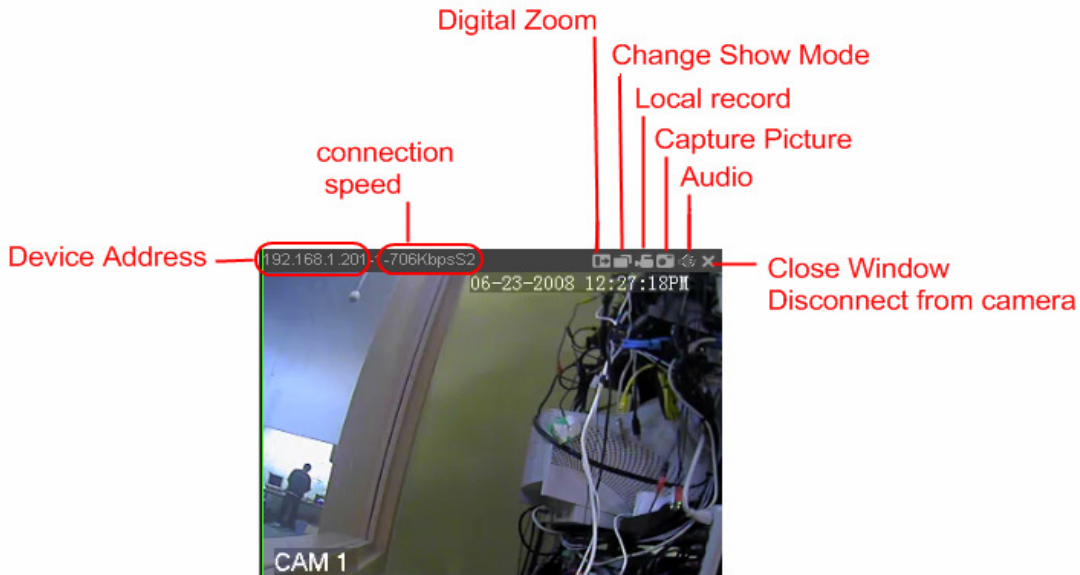

Figure 7-31
- Window View: See Figure 7-31